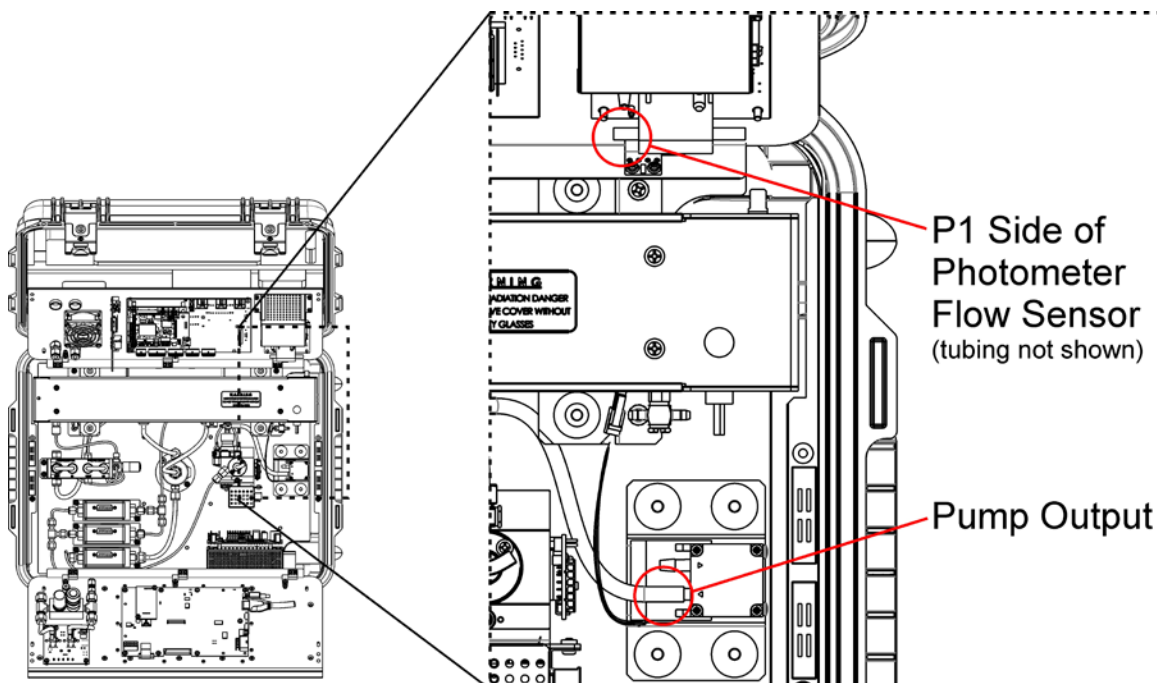

Figure 8-1: Clamping the Photometer Sensor Input and Pump Output
5. On instruments with the optional O₃ photometer installed, clamp off the input to the photometer flow sensor and clamp off the pump output (refer to Figure 8-1: